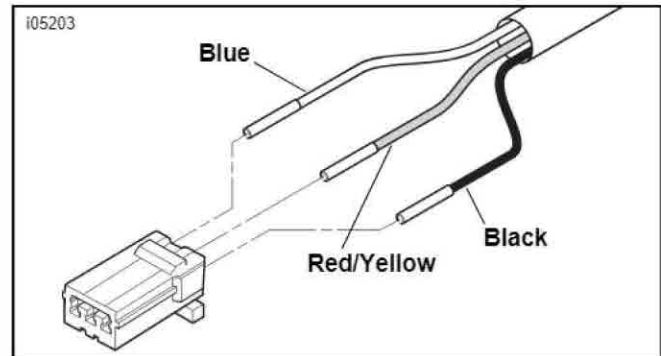

Figure 12. Wiring the Socket Housing
11. See Figure 12. Insert the license plate frame harness wires into the socket housing (9) from the kit as shown. Refer to AMP MULTILOCK ELECTRICAL CONNECTORS in the Service Manual.